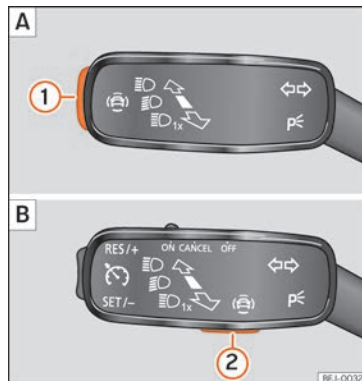

Fig. 63 On the turn signal and main beam lever: button for driver assistance systems (depending on versions).
- Press »» Fig. 63 ① or ② briefly to open the **Driving aids** menu.